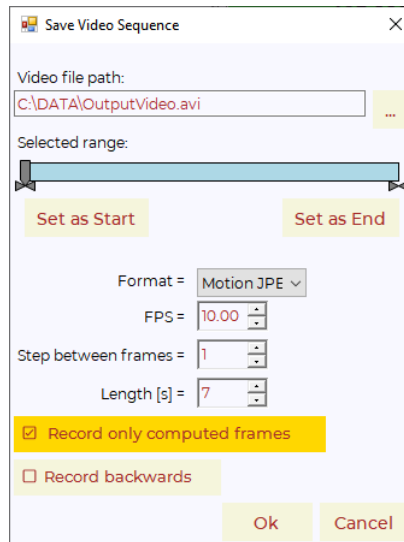

Figure 29: Save Video Sequence dialog box
- ❖ **Save Video Sequence**  – Saves the recorded sequence of images into an AVI file. An additional dialogue window shown in Figure 29 is consequently opened for setting the parameters of the saved subsequence.